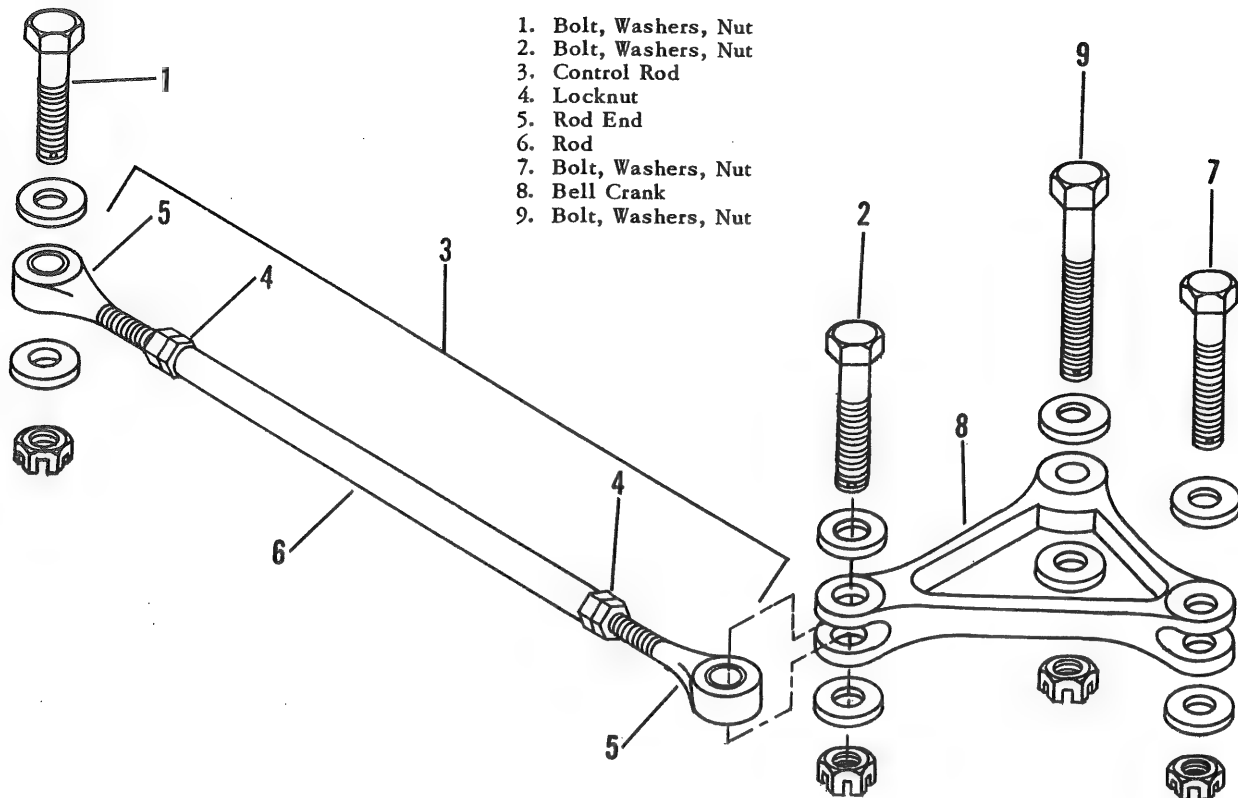

Figure 3-58. Control Rod and Bell Crank
3-202. DESCRIPTION. The engine control system is an arrangement of such items as control rods, bell cranks, pulleys, pulley bracket, cables, and levers into a compatible relationship in order that certain engine units may be operated from the pilots' compartment by the pilot. The complete engine control system provides separate controls for throttle, fuel-air mixture, and carburetor air temperature. Figures 3-58 and 3-59 present typical installations of the control system. When figures 3-58 and 3-59 are used in conjunction with specific parts of the text, instructions are provided for maintenance personnel to perform any work required on the system.
3-206. REMOVAL. (See figure 3-58.) Remove bolts, washers, and nuts (1 and 2) and remove control rod (3) from system.
3-207. DISASSEMBLY. Loosen locknuts (4, figure 3-58) and unscrew rod ends (5) from rod (6).
b. Inspect rod (6, figure 3-58) for nicks, scratches, and dents.
b. Replace rods (6, figure 3-58) which have nicks, scratches, and/or dents that would damage or distort internal threads or cause loss of structural strength.
c. Replace bearings in rod ends (5) which have rough spots or show signs of overheating when rotated.
a. Install locknuts (4, figure 3-58) on threaded portion of rod ends (5).
b. Screw rod ends (5) into rod (6).
c. Position control rod (3) at proper location in control system and install bolts, washers, and nuts (1 and 2).
a. Remove bolts, washers, and nuts (2 and 7, figure 3-58) and remove connecting links from bell crank (8).
b. Remove bolt, washers, and nut (9) that secure bell crank (8) to helicopter structure and also serves as axle for bell crank rotation.
c. Remove bell crank (8).
3-215. DISASSEMBLY. Remove bearing from pivot hole if bell crank (8, figure 3-58) incorporates bearing.
a. Check bell crank (8, figure 3-58) for indication of distortion or impending failure.
3-219. REASSEMBLY. Use arbor press or hydraulic press to install bearing if bell crank (8, figure 3-58) incorporates bearing in pivot hole.
a. Position bell crank (8, figure 3-58) at its proper location in the control system and install bolt, washers, and nut (9).
b. Position control rod (3) to bell crank (8) and install bolts, washers, and nuts (2 and 7).